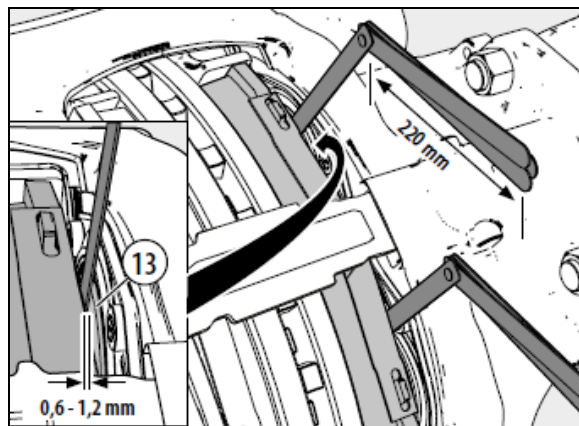

FIGURE 34: CHECK GAP BETWEEN TAPPETS AND INBOARD PAD
14. Turn the adjuster with adapter (61) **3 clicks** anticlockwise (increasing the air gap) (see Figure 34).